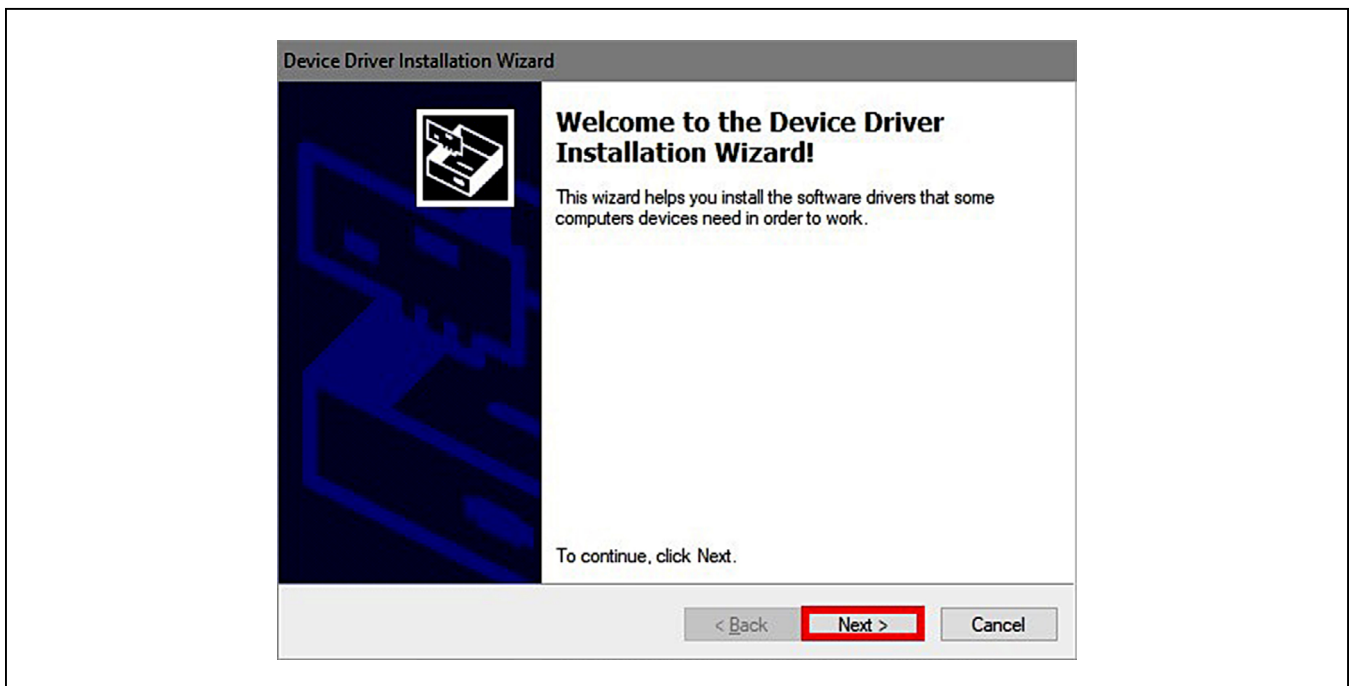

Figure 3. DS9481P-300# Driver Installation
- 4) Follow the instructions in the wizard and click **Next** to install the EV kit software and required drivers (Figures 3, 4).